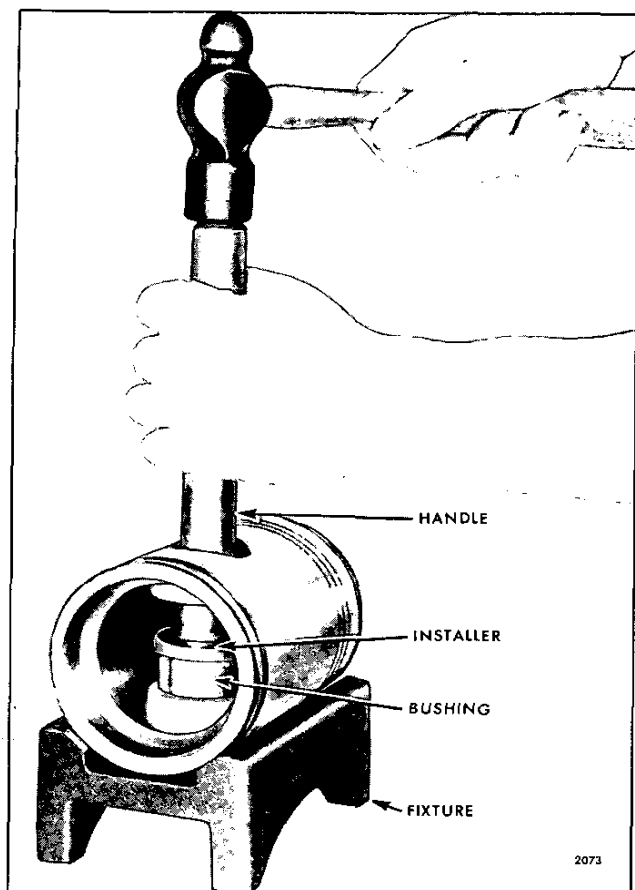

Fig. 5 - Removing or Installing Piston Pin Bushings
2. Drive each bushing from the piston (non-turbocharged engines) with the bushing remover J 4972-4 and handle J 1513-2 (Fig. 5).